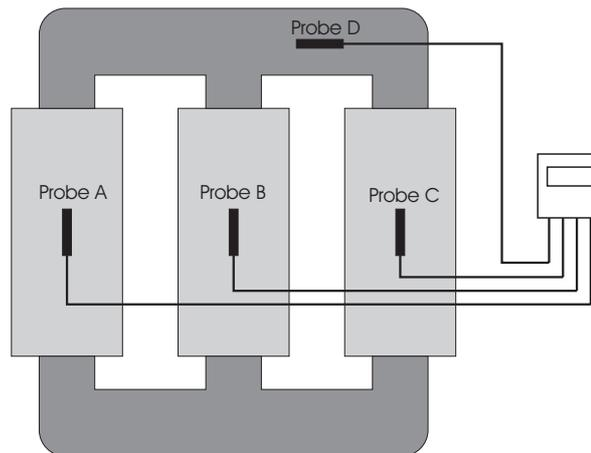

Figure 1
- **4 analog input channels** for resistive probes Pt100 to measure 4 temperatures: the temperatures in the three transformer columns and the one in the core (see figure 1).